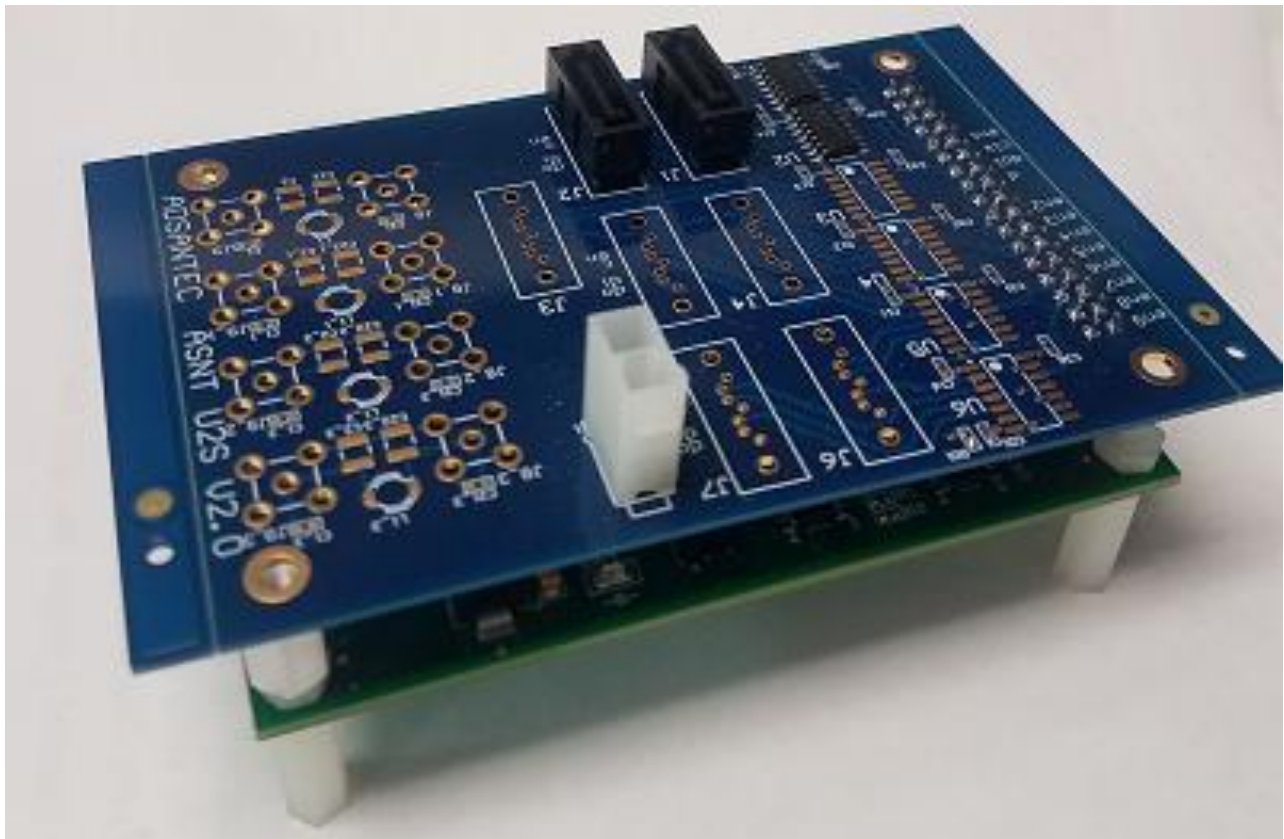

Fig. 3. ASNTu2s and Tiger Board Assembly
3. Attach the ASNTu2s PCB to the Tiger Board as shown in Fig. 3. Standoffs between boards are recommended to provide additional support and are typically provided.